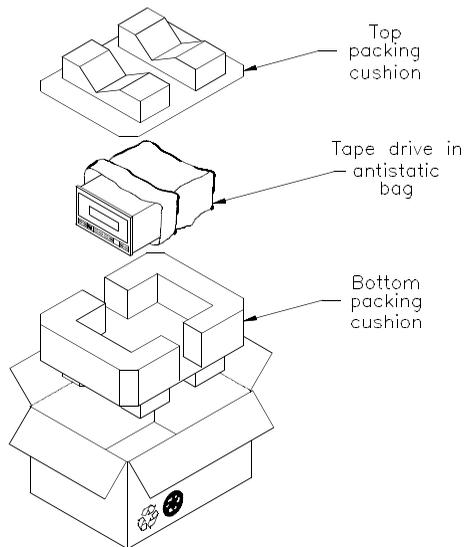

Figure 12 Single-pack carton and packing materials
You can ship the tape drive with either one drive per carton (single-pack) or with four drives per carton (four-pack). Figure 12 on page 33 shows the single-pack carton and packing materials.
5. **Single-pack shipping carton (Figure 12):**